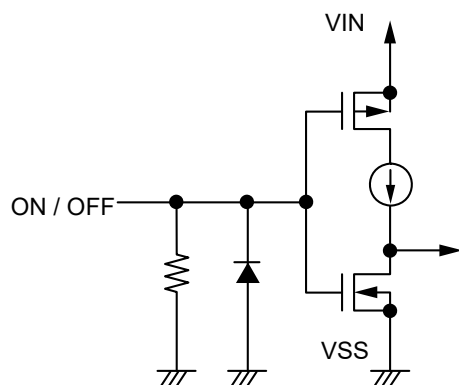
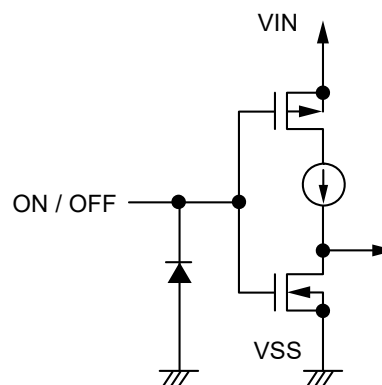

Figure 27 S-1335 Series A / C / E / G / J / L type
Figure 28 S-1335 Series B / D / F / H / K / M type
The ON / OFF pin is configured as shown in **Figure 27** and **Figure 28**.
*1. Note that the IC's current consumption increases as much as current flows into the pull-down resistor of 2.2 MΩ typ. when the ON / OFF pin is connected to the VIN pin and the S-1335 Series A / C / E / G / J / L type is operating (refer to **Figure 27**).